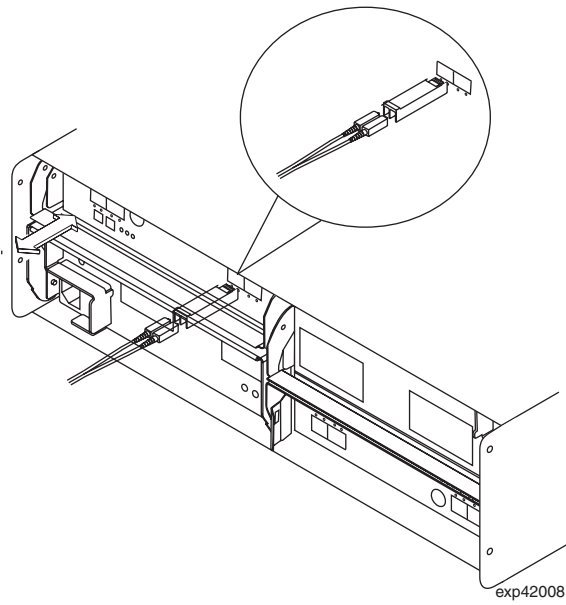

Figure 33. Installing an SFP module and LC-LC cable in a supported DS4000 storage subsystem
2. Connect an LC-LC fibre-optic cable into the SFP module, as shown in Figure 33 on page 47.
Note: Figure 33 on page 47 is for illustrative purposes only. The actual SFP module on your particular DS4000 storage subsystem might appear differently than the one shown in the figure.